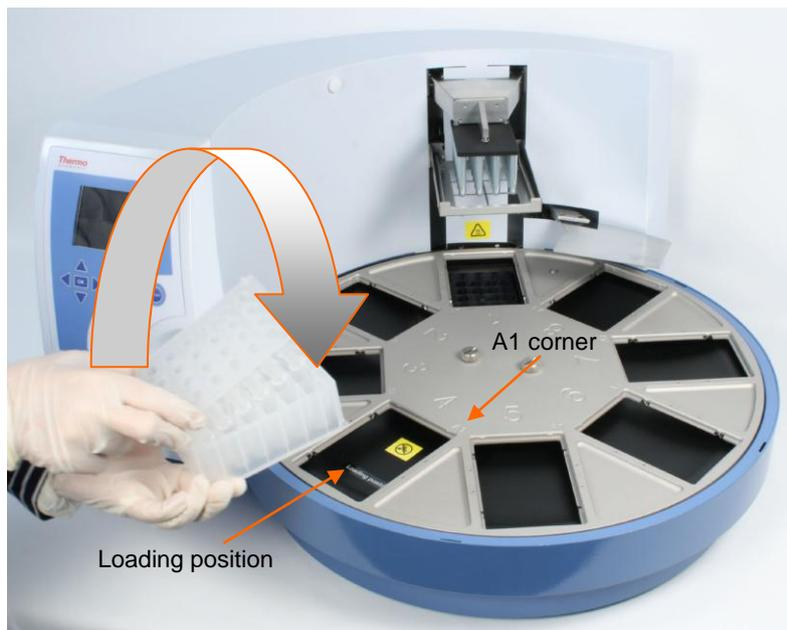

Figure 15. Combining the tip comb and KingFisher plate
3. Load the plates in the order that the protocol requests. Place the A1 well of the plate so that it is in the upper right corner. The first A1 row is consequently always in the inner circle. Once you have loaded the requested plates into the plate stations, press **START**. The tip comb always has to be placed manually onto a Thermo Scientific™ KingFisher™ plate (Figure 15). The instrument also functions with either one plate or up to eight plates depending on the amount of steps.